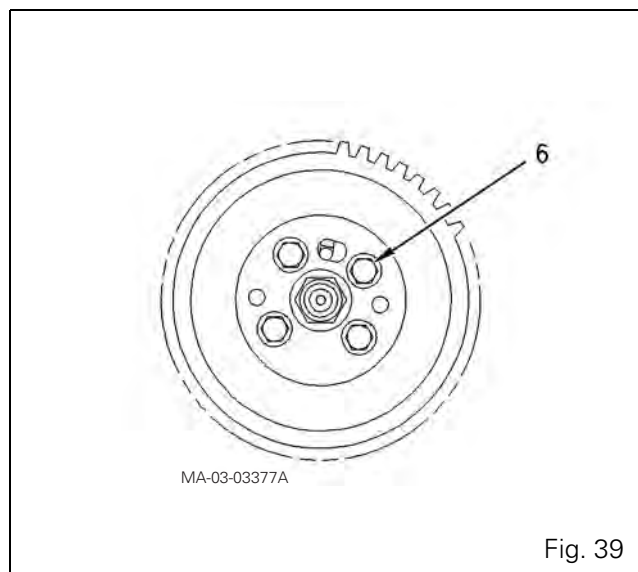

Fig. 39
188. Assemble the injection pump gear on the pump hub. To prevent any backlash, check that the four pressure screws (6) (Fig. 39) are centred in the gear slots. Fit the four injection pump screws (6) without tightening.